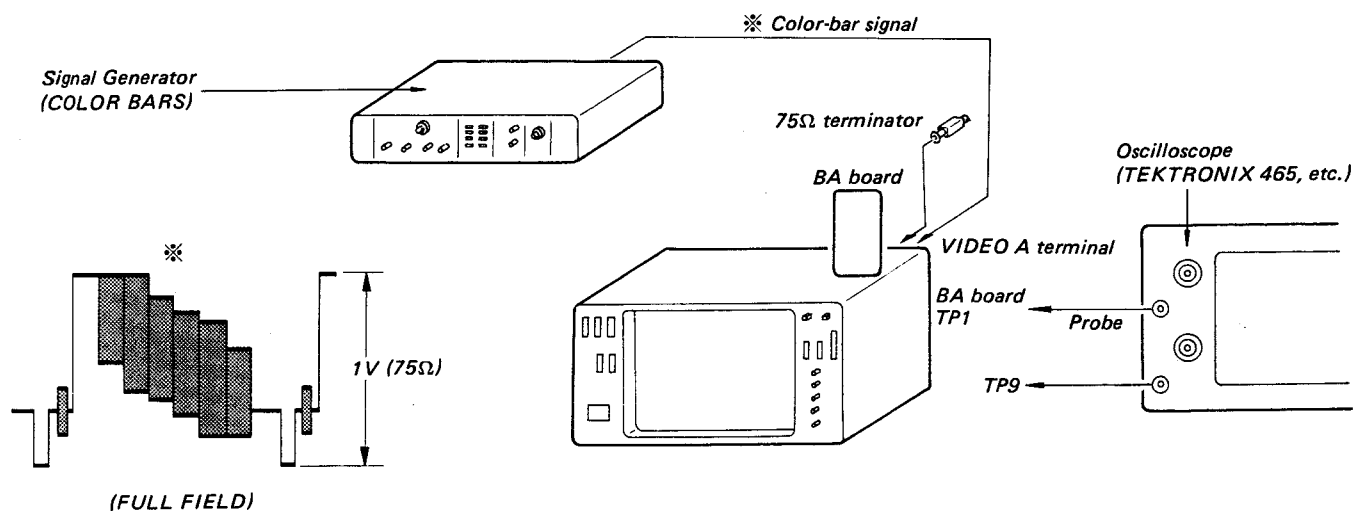

Fig. 5-99.
1. Complete the connections as shown in Fig. 5-99.